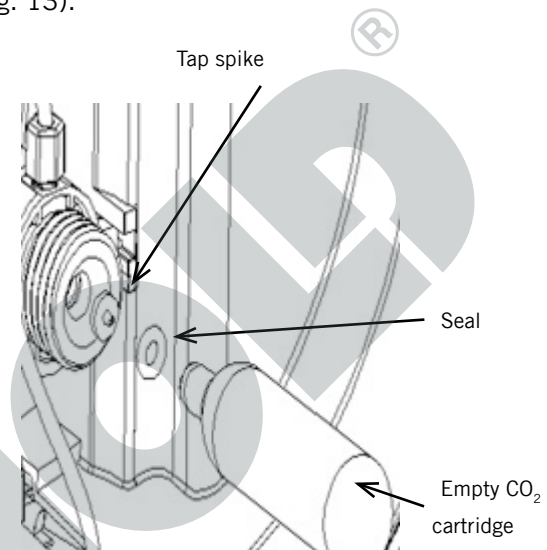

Fig. 14
**Press the new seal into position. Use an empty CO2 cartridge to set the seal properly (Fig. 14).**